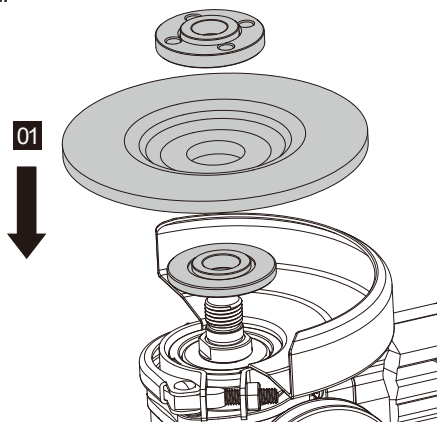

Figure 3-1
3. FITTING THE DISCS (NOT SUPPLIED) (SEE FIG. 3-1 & 3-2 & 3-3)